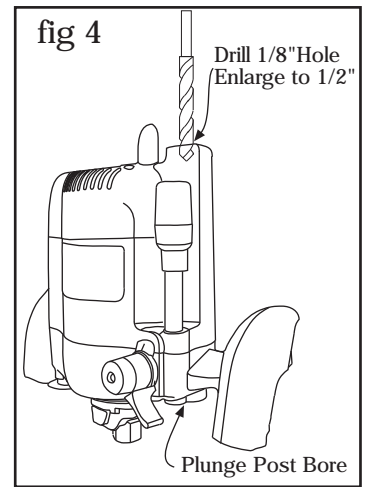

fig 4
1. Select the 1619 template page 14. Cut out the motor housing drill template and fold the two tabs down. Using fig 4 align template on top of motor housing and tape in place. Place center punch on template crosshairs and mark housing. Remove template and check mark with measurements. Center a 1/8" drill bit on mark and drill through housing, turn motor housing over, look down the plunge post bore, the 1/8" hole should be centered. Center 1/2" drill bit on 1/8" hole and enlarge.